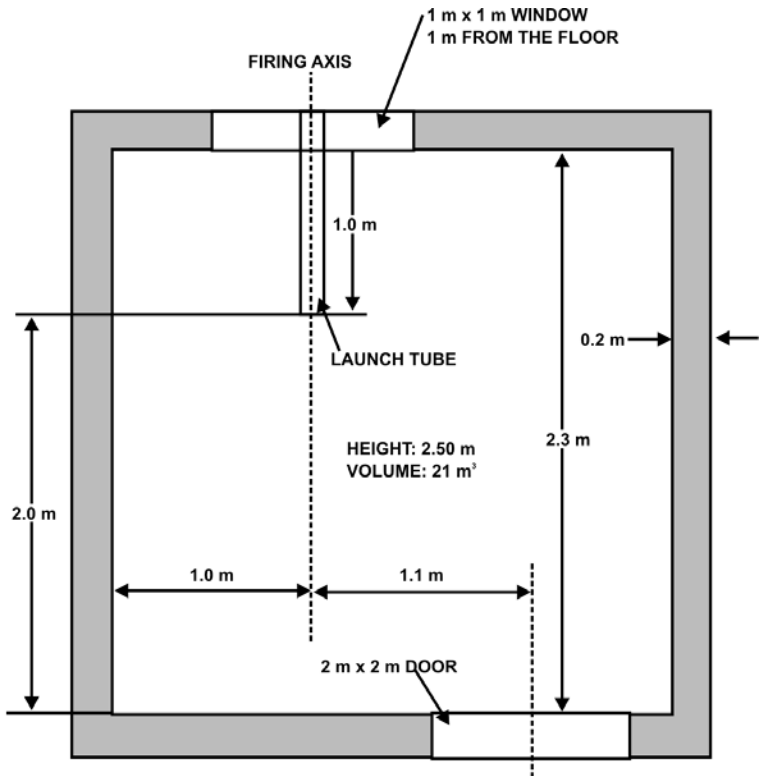

Figure 2-7: Firing in Confined Spaces
40. **Firing in Confined Spaces.** *Explain.* Eryx can be fired from confined spaces because the dual rocket motor design gives the missile a low ejection speed at launch. The minimum requirements of the firing space (see Figure 2-7) are: